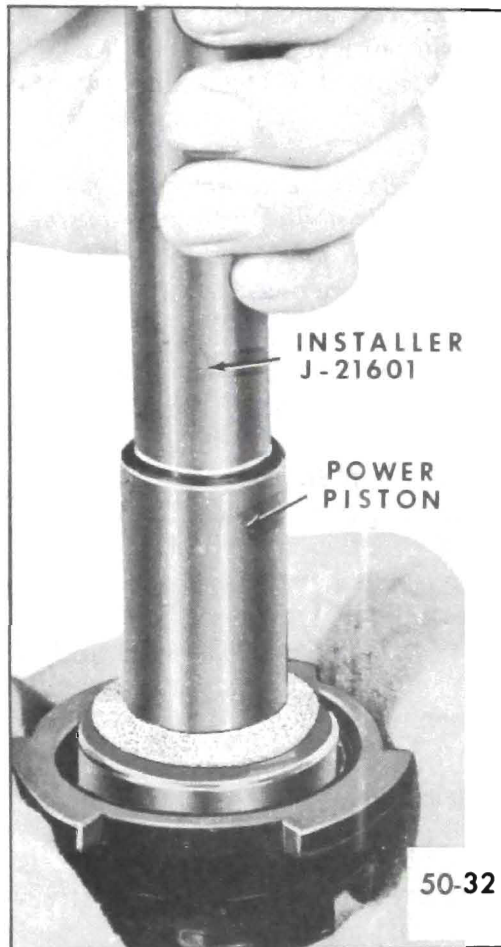

Figure 50-90 Installing Floating Control Valve Assembly
10. Start floating control valve and its retainer into power piston tube. Press the floating control valve to seat in the tube, by placing J-21601-01 Floating Control Valve Retainer Installer on top of retainer and pushing down by hand. See Figure 50-90.